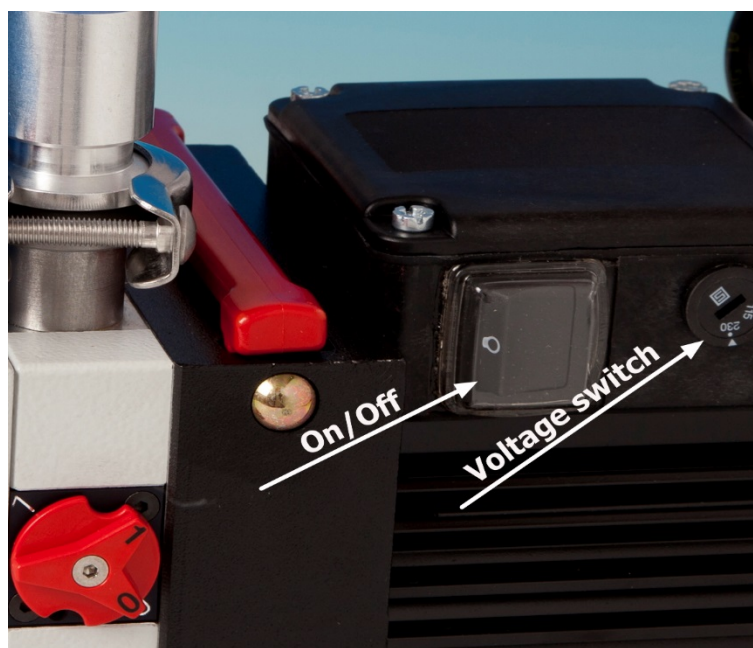

Figure 14 - Rotary pump
- Check that the voltage switch is set to the correct voltage for your country and then switch on the pump (Figure 14).
After connecting the pump, vacuum hose and cables as described in section 3.1, make sure that the rotary pump is switched to the correct voltage (Figure 14) and the pump power switch is switched to on.